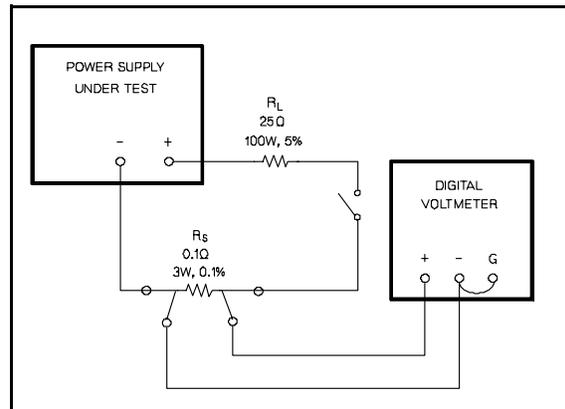

Figure A-6. Output Current, Test Set Up
- Connect the test setup shown Figure A-6 to the V1 supply's + and - output terminals.
- Connect the test setup shown in Figure A-6 to the V1 supply's + and - output terminals. Substitute a short for R_L and leave the load switch open.